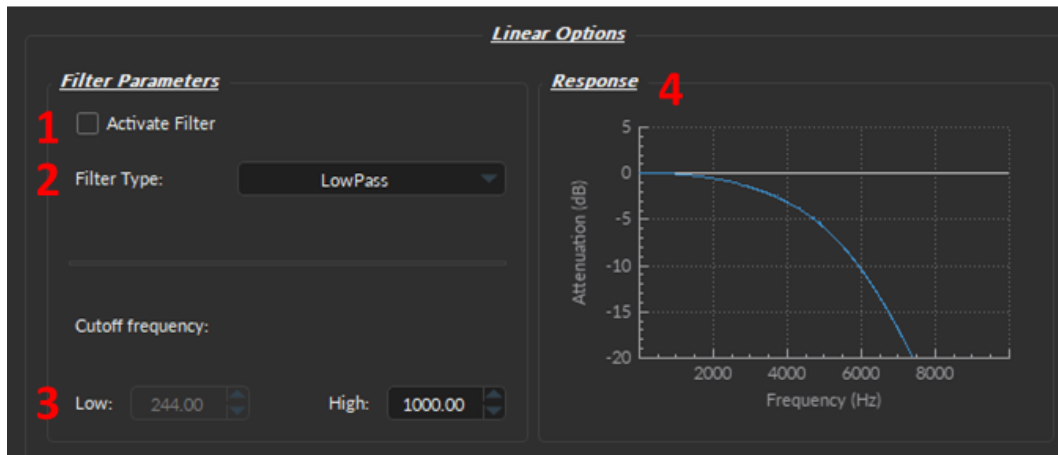

Figure 6.28: Channel(s) Configuration, Analog Input Linear
The **Linear** channel mode (Fig. 6.28) allows the direct measurement of signal received by a channel. The linear mode-specific parameters are as follows:
1. When the **Activate Filter** checkbox (Fig. 6.28, 1) is selected, the defined filter is applied on all input data and displayed on a new trace. The filtered data is for display only, and will not be saved.
2. The **Filter Type** drop-down list (Fig. 6.28, 2) allows the choice of a filter type from **High-Pass**, **Low-Pass**, **Band-Pass** and **Band-Stop**.
3. The **Cutoff Frequency** boxes (Fig. 6.28, 3) are used to define the low/high cutoff values for the filter, depending on the type used. The cutoff frequency must be less than half of the sampling rate. Note: the true cutoff value is, by definition, always 3 dB below (Low Cutoff) or above (High Cutoff) the specified value.
4. The **Response** box (Fig. 6.28, 4) displays the Frequency (Hz) vs Attenuation (dB) trace of the filter according to both the filter type and the cutoff values.